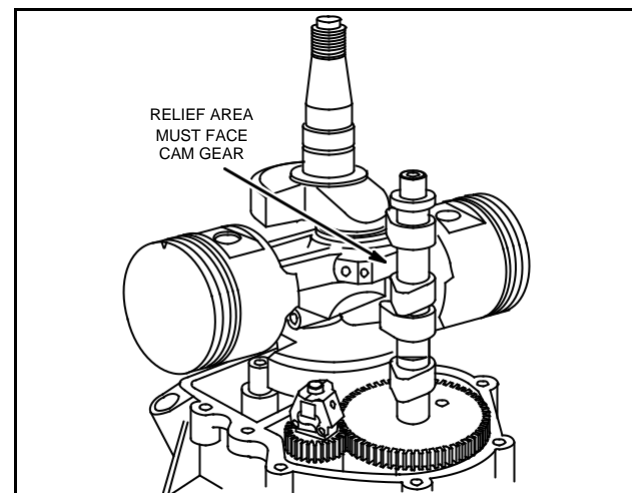

Fig. 6 – Installing Connecting Rods – Model 462770
**NOTE:ENGINE MODELS 462770:** With piston and connecting rod assemblies installed, make sure the machined relief areas on the connecting rod and cap are together and facing cam gear, Fig. 6.